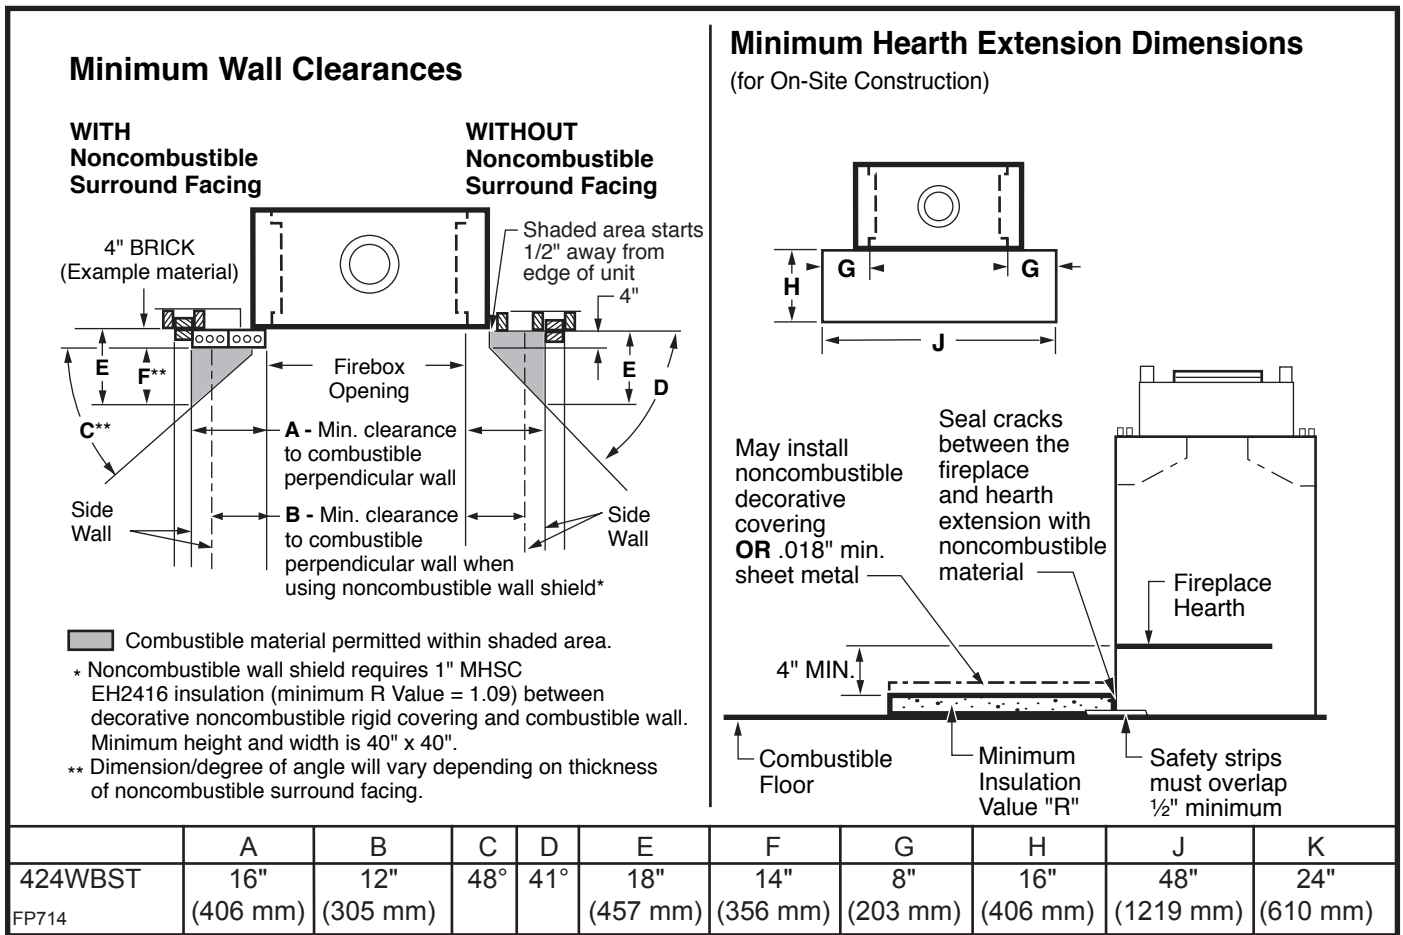

Fig. 24 Combustible side wall protection and hearth extension dimensions.
Often a decorative surround or vertical portion of the mantel is desired. If this is constructed of any combustible material, it must be within the safe zone indicated in Figure 24.
A hearth extension is required to protect a combustible floor in front of the fireplace. Refer to Figure 24 for minimum dimensions and mounting detail.
The hearth extension described in Figure 24 must be a durable noncombustible material with a minimum (total) Rt value of 1.09; refer to Figure 25 for examples. The overall height (above a combustible floor), depth and width must be as indicated, with the extension centered to the fireplace opening.
The top of the insulation material must be covered with a noncombustible decorative covering or a piece of .018" minimum sheet metal, to protect hearth extension material. (Fig. 24)
Secure the hearth extension to the floor to prevent shifting, using trim molding or other similar means at three (3) outer edges. Seal crack between the fireplace hearth and hearth extension with a noncombustible material. (Figs. 24 and 26)
WARNING: HEARTH EXTENSION MUST BE INSTALLED IN ACCORDANCE WITH FIGURES 24 AND 25.